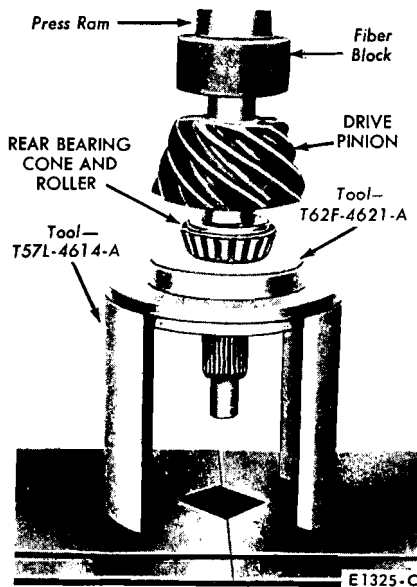
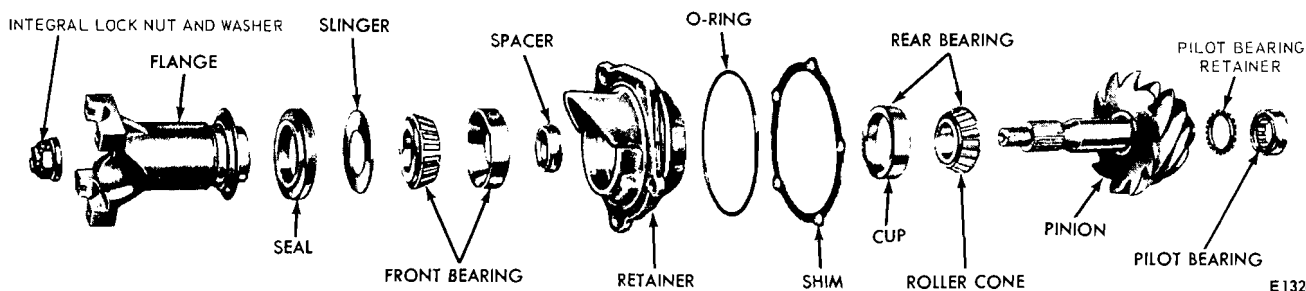

FIG. 45—Installing Pinion Rear Bearing Cone
FIG. 46—Pinion and Bearing Retainer
1. Install the drive pinion rear bearing cone and roller on the pinion shaft (Fig. 45). On vehicles equipped with high performance engines use tool T57L-4621-B along with tool 757L-4614-A as shown in Fig. 45. Place a new spacer on the pinion shaft (Fig. 46).
2. Place the bearing retainer on the pinion shaft, and install the front bearing cone and roller in the retainer. Press the front bearing cone and roller into position with the same tools as used in Fig. 45 for front bearing installation. On vehicles with high performance engines, use T57L-4621-B along with tool T57L-4614-A.